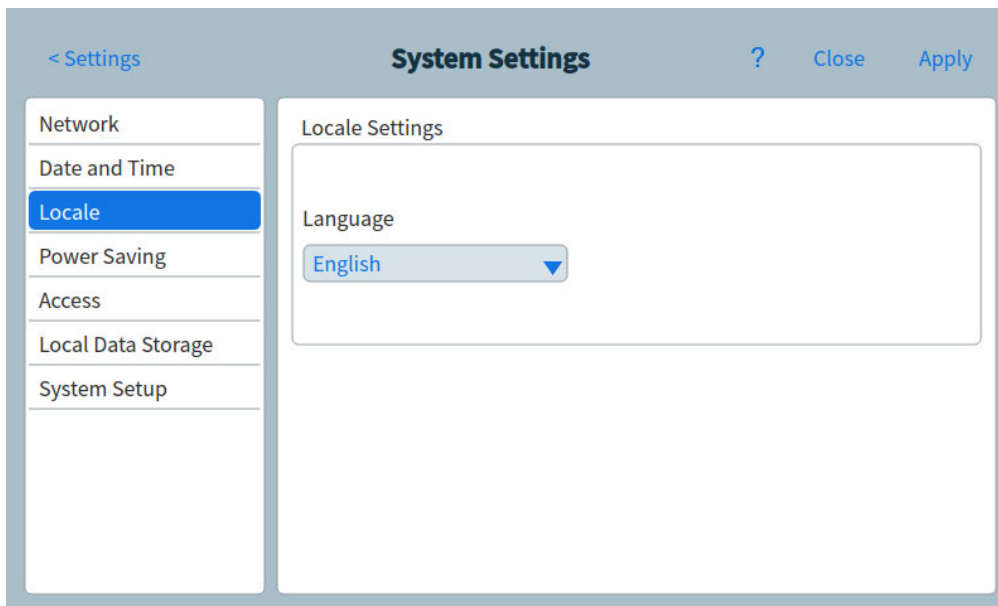

Figure 50. Locale Settings page
- 1 From the System Settings page, select the **Locale** page selection button. The Locale Settings page appears. See Figure 50.